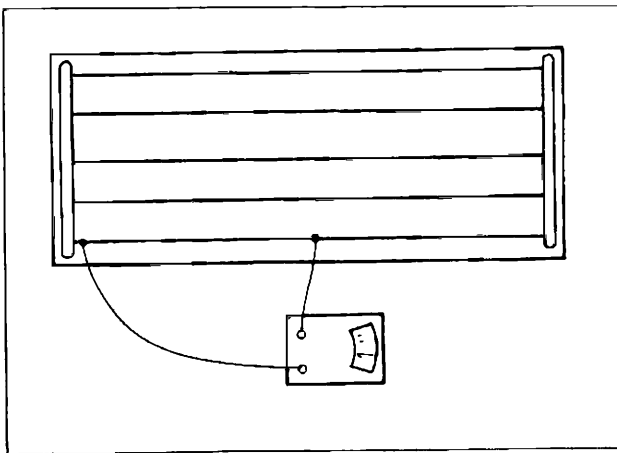

Fig. BE-46 Checking for broken heat wire with ohmmeter
(3) Method 3 With an ohmmeter setup shown in Figure BE-46, locate one lead on each end of a heat wire and the other in the middle section of that wire. If the meter registers, on a specific grid line, a value twice as much on any other line, that line is broken.